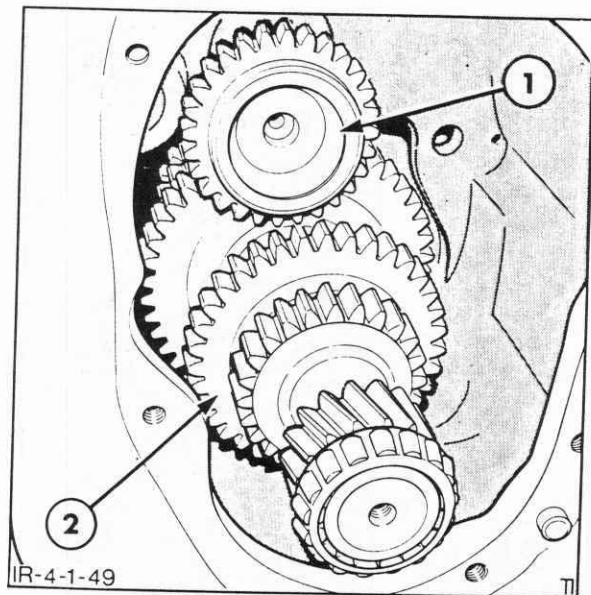

Figure 4-49
3. Lift the countershaft assembly, Figure 4-49, and remove from the rear end of the transmission case.